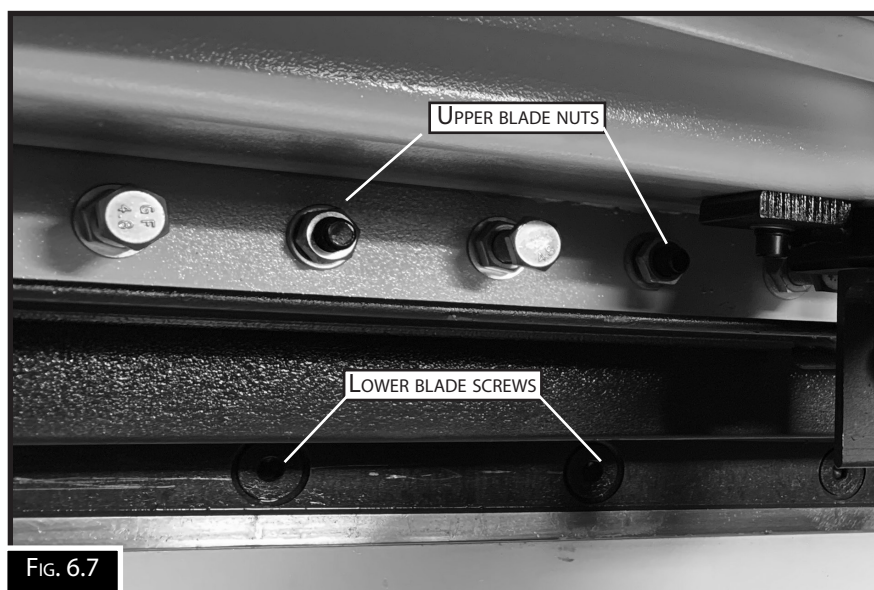

FIG. 6.7
(Fig. 6.7) Place two dowels 12mm diameter by 100 mm long into two screw holes, one at each end of the blade.
4. Two people will be required at this stage. Whilst holding the blade in position, remove the remaining screw. Slide the lower blade onto the two dowels. While taking the weight off the blade, remove the dowels and lower the blade. Once the blade has been removed then remove the upper blade by loosening the nuts, (Fig. 6.7) and removing all but two of the nuts. Once the blade has been released from its position then, support the blade and remove the last two nuts, and remove the blade.